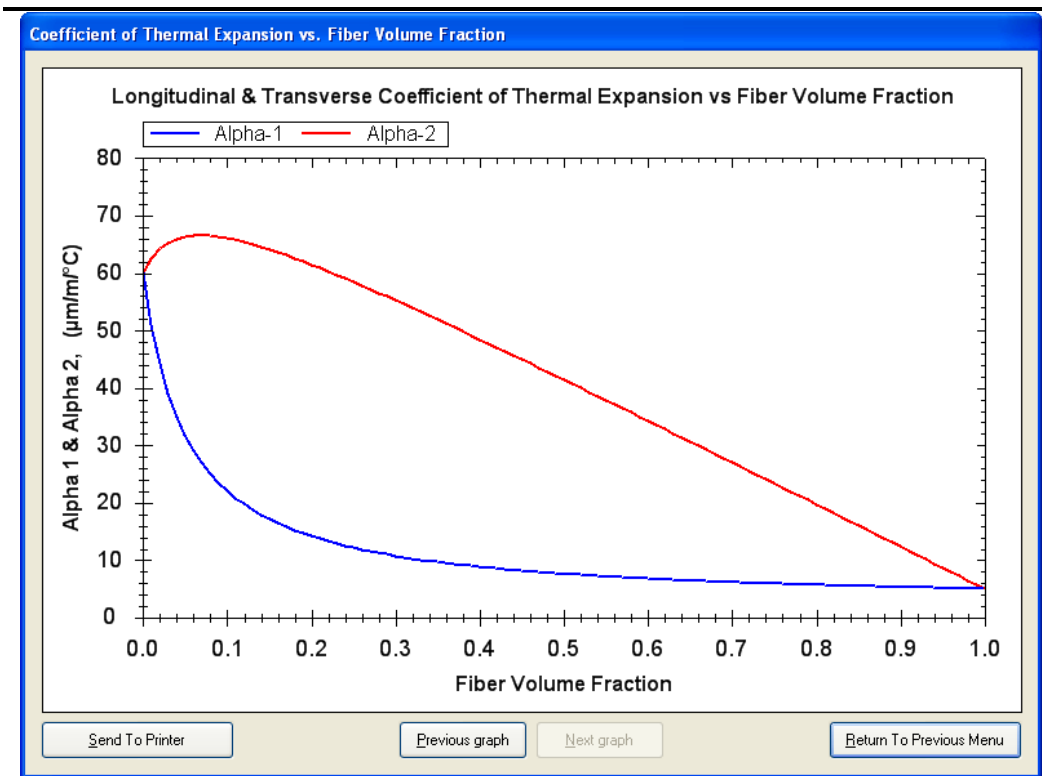

Figure 6. Coefficients of thermal expansion as a function of fiber volume fraction for Example 3.
3. Click on the Graph: CTEs vs. FVF Button. From the graph, as shown in Figure 6, we see that the maximum transverse thermal expansion coefficient occurs when the fiber volume fraction is between 0.05 and 0.1. Next, using these values as the upper and lower limits, iteratively use the CTEs of Unidirectional Lamina Button to find the fiber volume fraction for which the thermal expansion coefficient is a maximum. Following this method, a fiber volume fraction of 0.071 is found to produce the maximum transverse coefficient of thermal expansion.